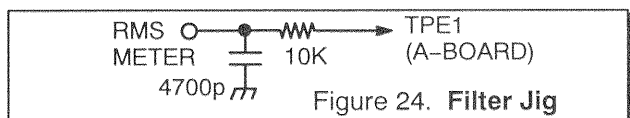

Figure 24. Filter Jig
2. Connect the RMS Meter with filter jig as shown in Figure 24.